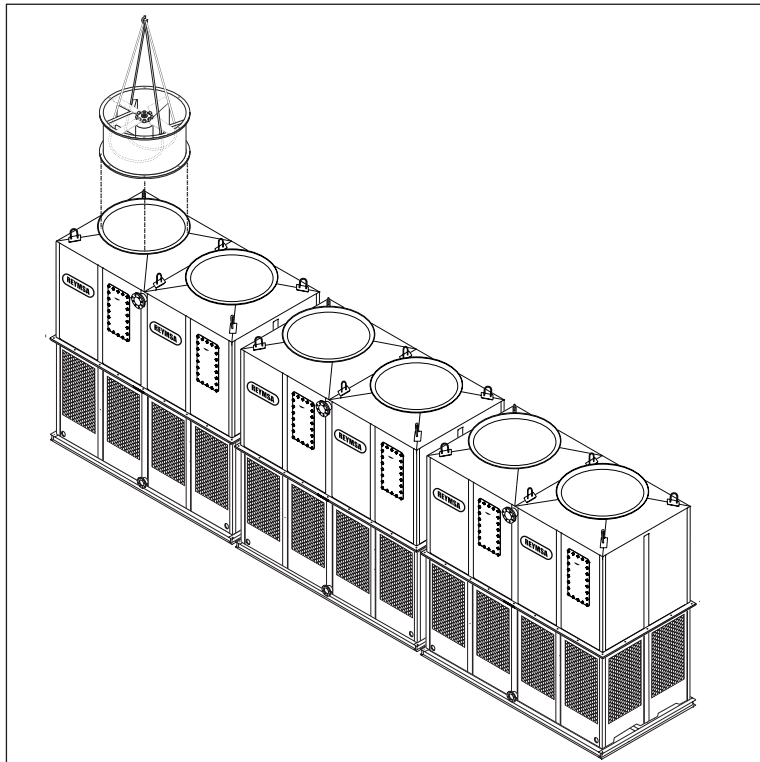

Figure A-70: Fan Duct installation for a Modular Tower (RTM-B-S)
- F. Then cradle/straddle the fan support with the straps (as shown in figure A-70) so you can lift the fan duct with a crane and assemble it.